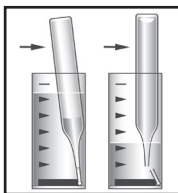

Figure 3
5. Place the CHEMets ampoule, tip first, into the sample cup. Snap the tip. The ampoule will fill leaving a bubble for mixing (fig. 3).